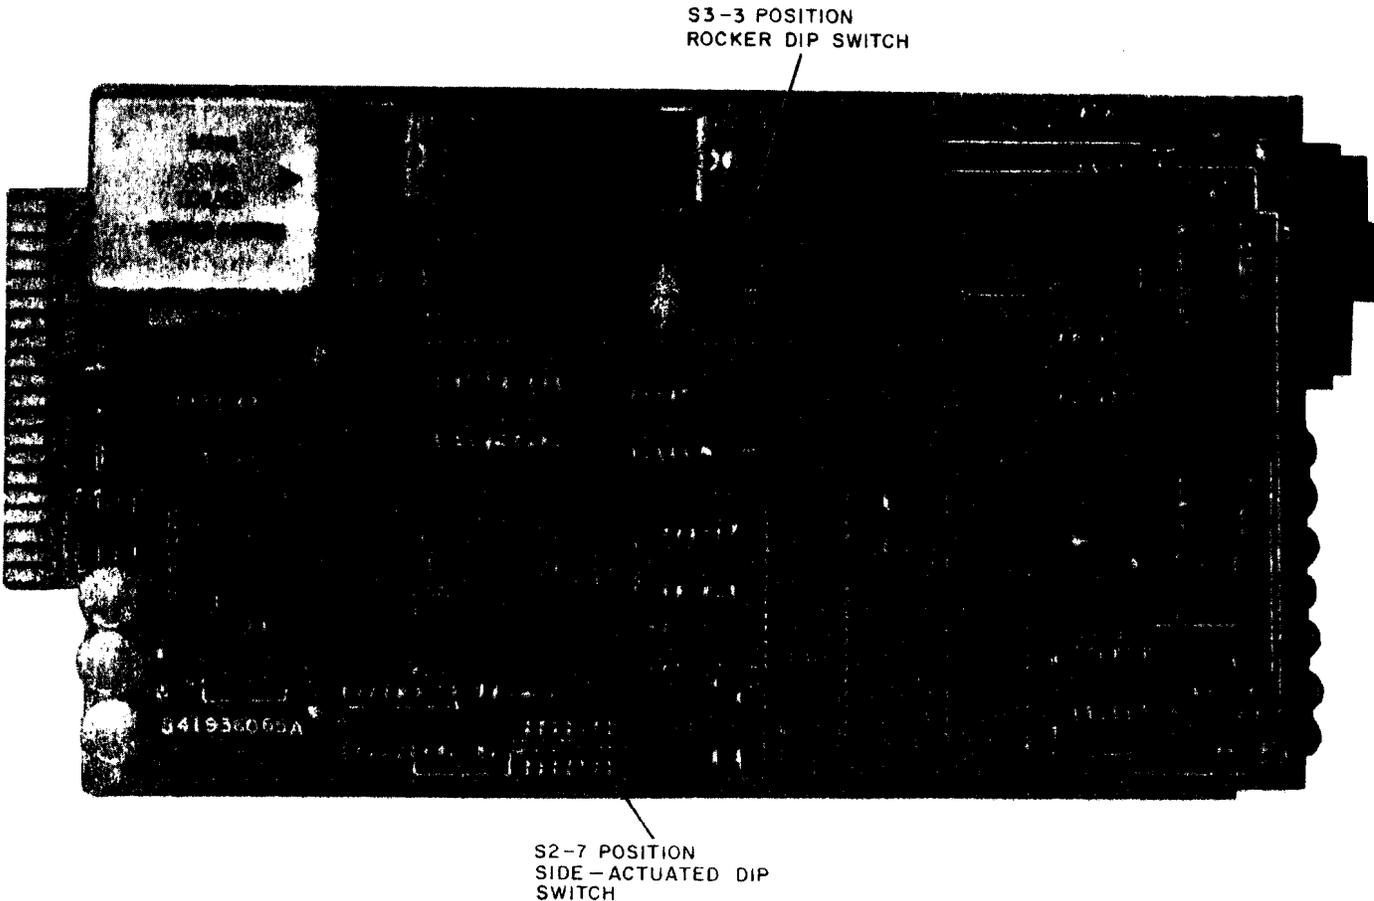

Fig. 1—Data Set 103J-L1
2.01 DS 103J-L1 must be removed from the mounting to be accessible (Fig. 1).